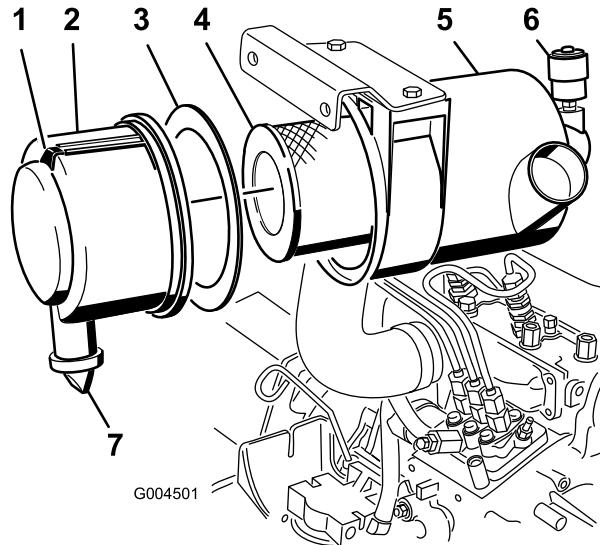

Figure 59
- Service the air cleaner filter when the air cleaner indicator (Figure 59) shows red or every 400 hours (more frequently in extremely dusty or dirty conditions). Do not over service the air filter.
- Pull the latch outward and rotate the air cleaner cover counter-clockwise (Figure 59).
- Remove the cover from the air cleaner body (Figure 59).
- Remove and replace the primary filter (Figure 59).
- Ensure that the foam gasket is in place in the cover and that it is not torn or damaged (Figure 59). If it is damaged, replace it.
- Remove the rubber outlet valve from the cover (Figure 59).
- Reset the indicator (Figure 59) if showing red.